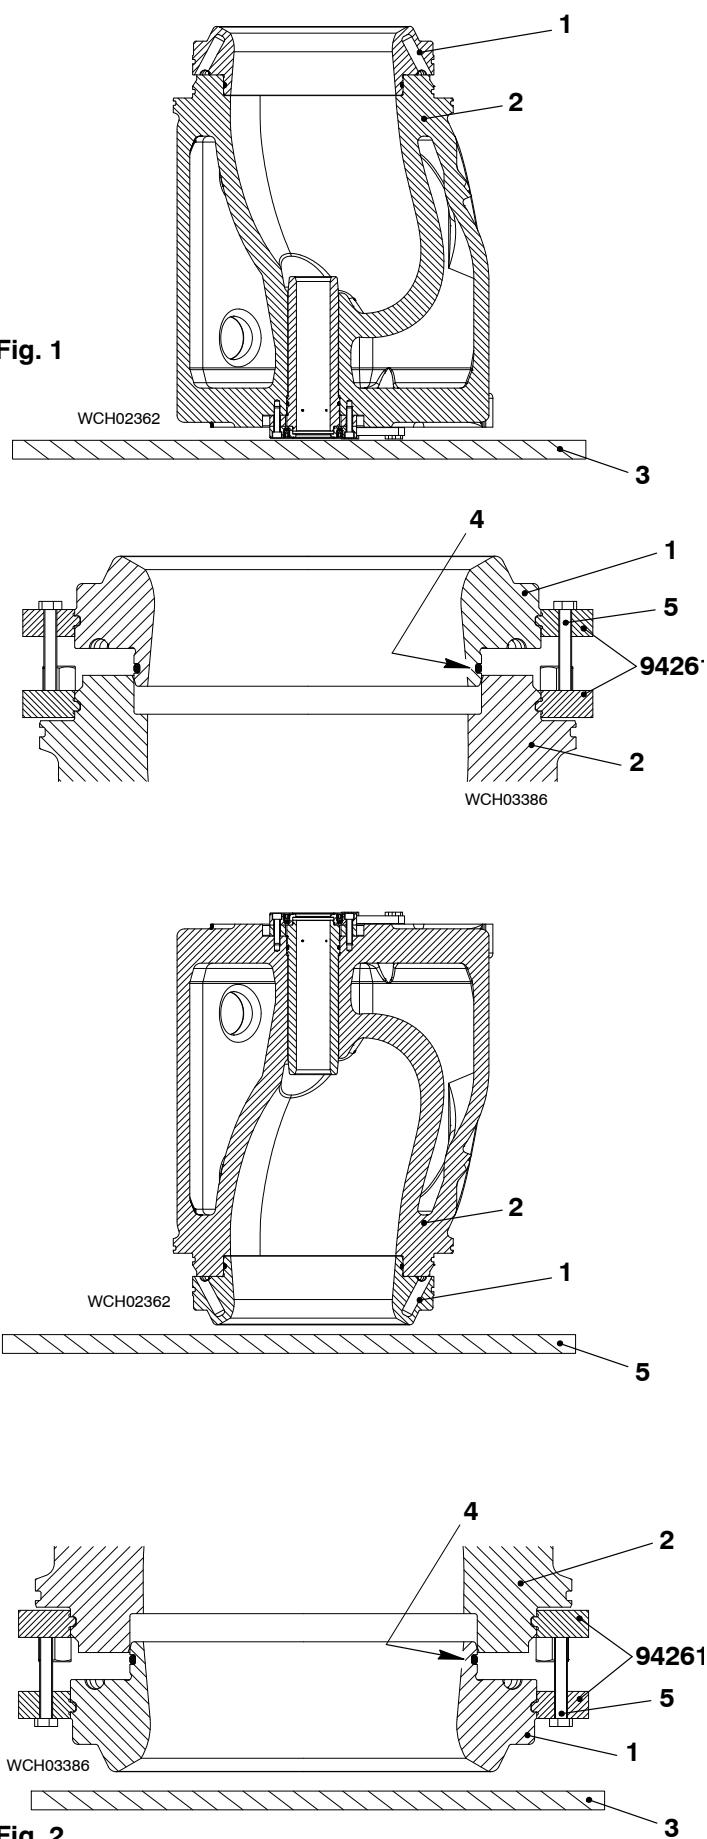

Fig. 2
- 1) Use the crane and an applicable lifting tool to hold the valve cage immediately above an applicable wooden underlay (3, Fig. 2).
- 3) Install the top two halves of the tool (94261) into the groove of the valve cage (2).
- 4) Install the bottom two halves of the tool (94261) into the groove of the valve seat (1).